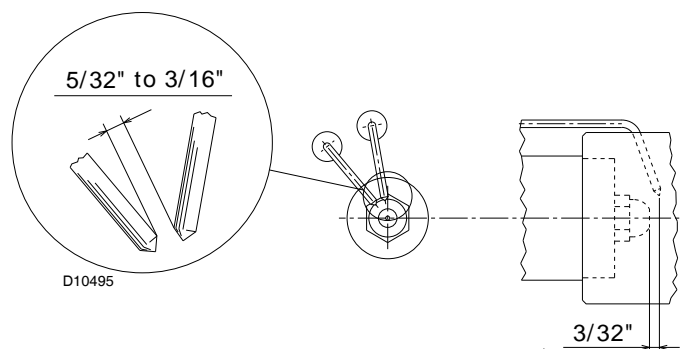

Fig. 23
- The nozzle for low fire operation is the one lying beneath the firing electrodes (Fig. 23).
- Make sure that the electrodes are positioned as shown in Fig. 23.
Refer to Fig. 23.